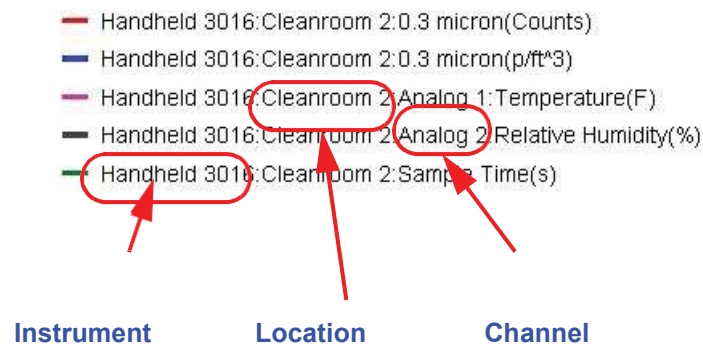

Figure 3-8 Graph Legend
14. Next, click the Time Range tab, as shown in Figure 3-8.